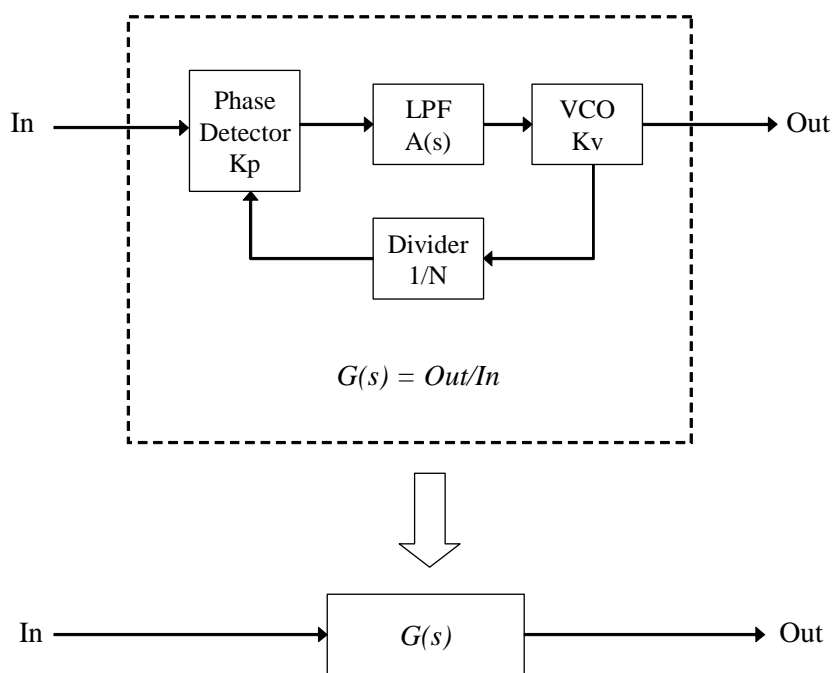

Fig.1 PLL Functional Block
Fig. 1 shows a simplified block diagram of generic phase locked loop (PLL). A PLL consists of the Phase Detector (PD), Low Pass Filter (LPF), Voltage Controlled Oscillator (VCO) and Frequency Divider (FD).
It should be noted that $G(s)$ becomes the first order low-pass filter only when $H(s)$ is constant, namely when $H(s)$ is non-dependent on the frequency. This means that $H(s)$ is no longer a low-pass filter in this case. On the contrary, it is well known that the PLL will not be stable without low-pass filter in place of $H(s)$. Therefore, the first order transfer function which is required by the HDMI CRU may not be realized by the PLL circuitry shown in Fig.1.